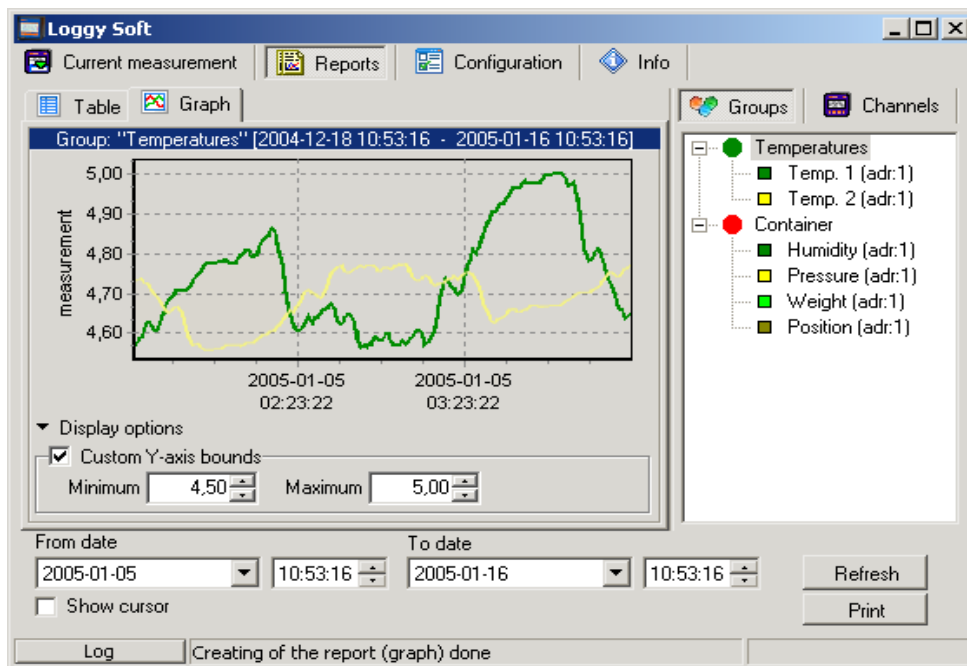

Fig. 3.6. Reports - Graph tab
**Graph** tab (**Fig. 3.6**) is used for viewing and printing of measurement results recorded by device (e.g. temperature, humidity) in the form of a graph. Measurements from a maximum of five recorded measurement channels can be viewed.
- **graphs area** - plots measured values (e.g. temperature, humidity) in function of time. Each channel is distinguished by a different colour (**Fig. 3.6**);
- click appropriate tab **Groups** or **Channels** (Fig. 3.6),